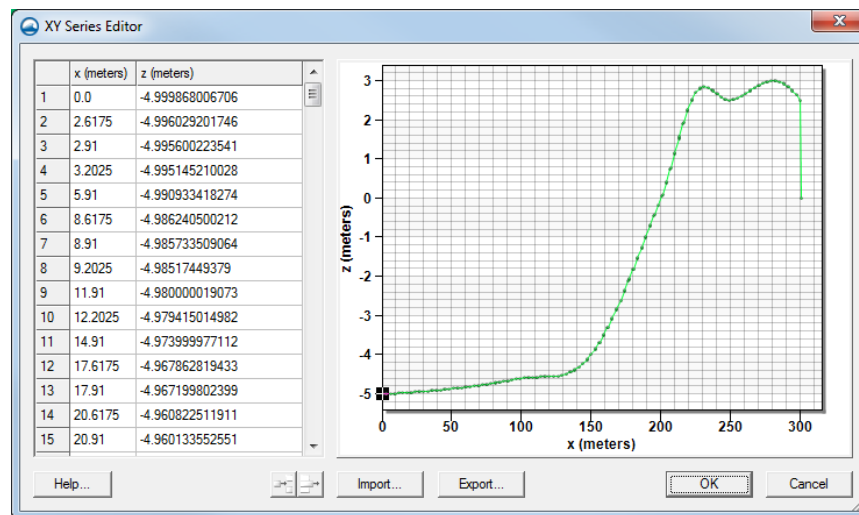

Figure 13 The XYZ Series Editor dialog showing information from one transect
2. Using the **Select Feature Arc**  tool, right-click on one of the transect arcs and select **Attributes...** to bring up the *XY Series Editor* dialog (Figure 13).